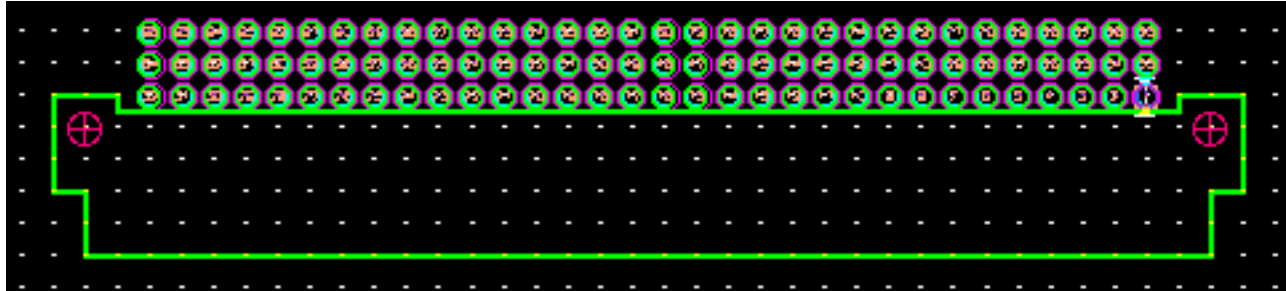

Figure 3-24. The Drill Holes Added
13. In the Add Drill Hole prompt bar that repeated, press the TAB key to highlight the location prompt, then place the cursor on Absolute coordinate location $X=0.2$, $Y=-0.1$, and click the Select mouse button. The two drill holes appear as shown in Figure 3-24.